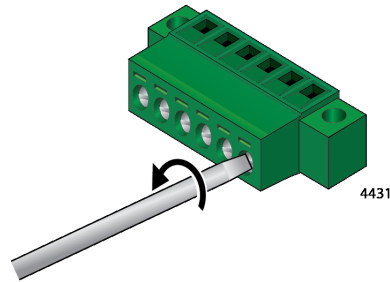

Figure 39. Loosen Power/Alarm Connector Wire Retaining Screws
5. Loosen the wire retaining screws for each of the six wire connections on the power/alarm connector with a #1 screwdriver as shown in Figure 39.